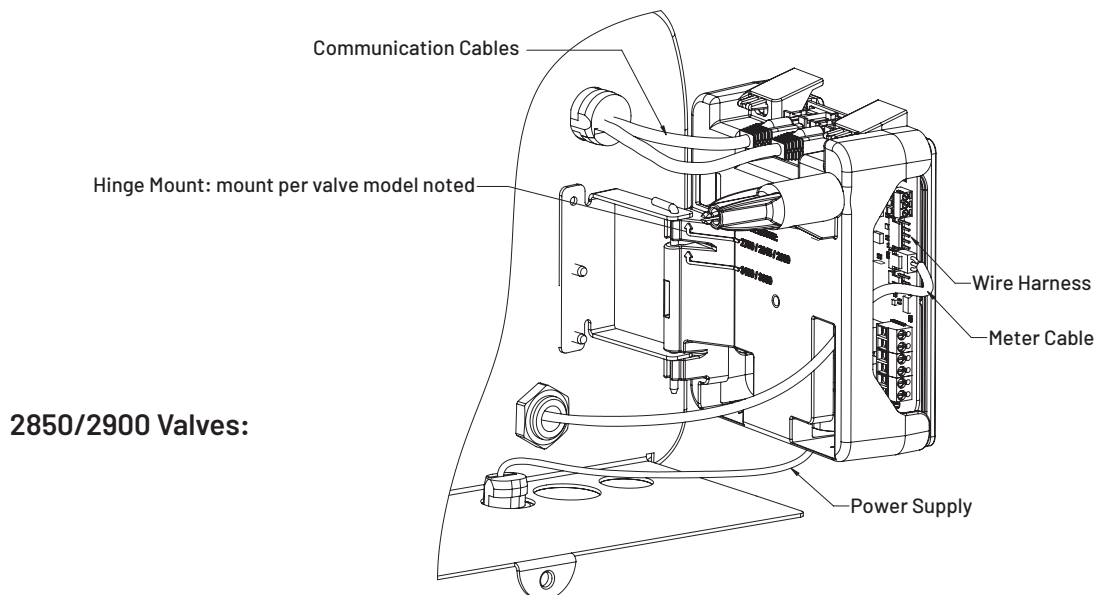
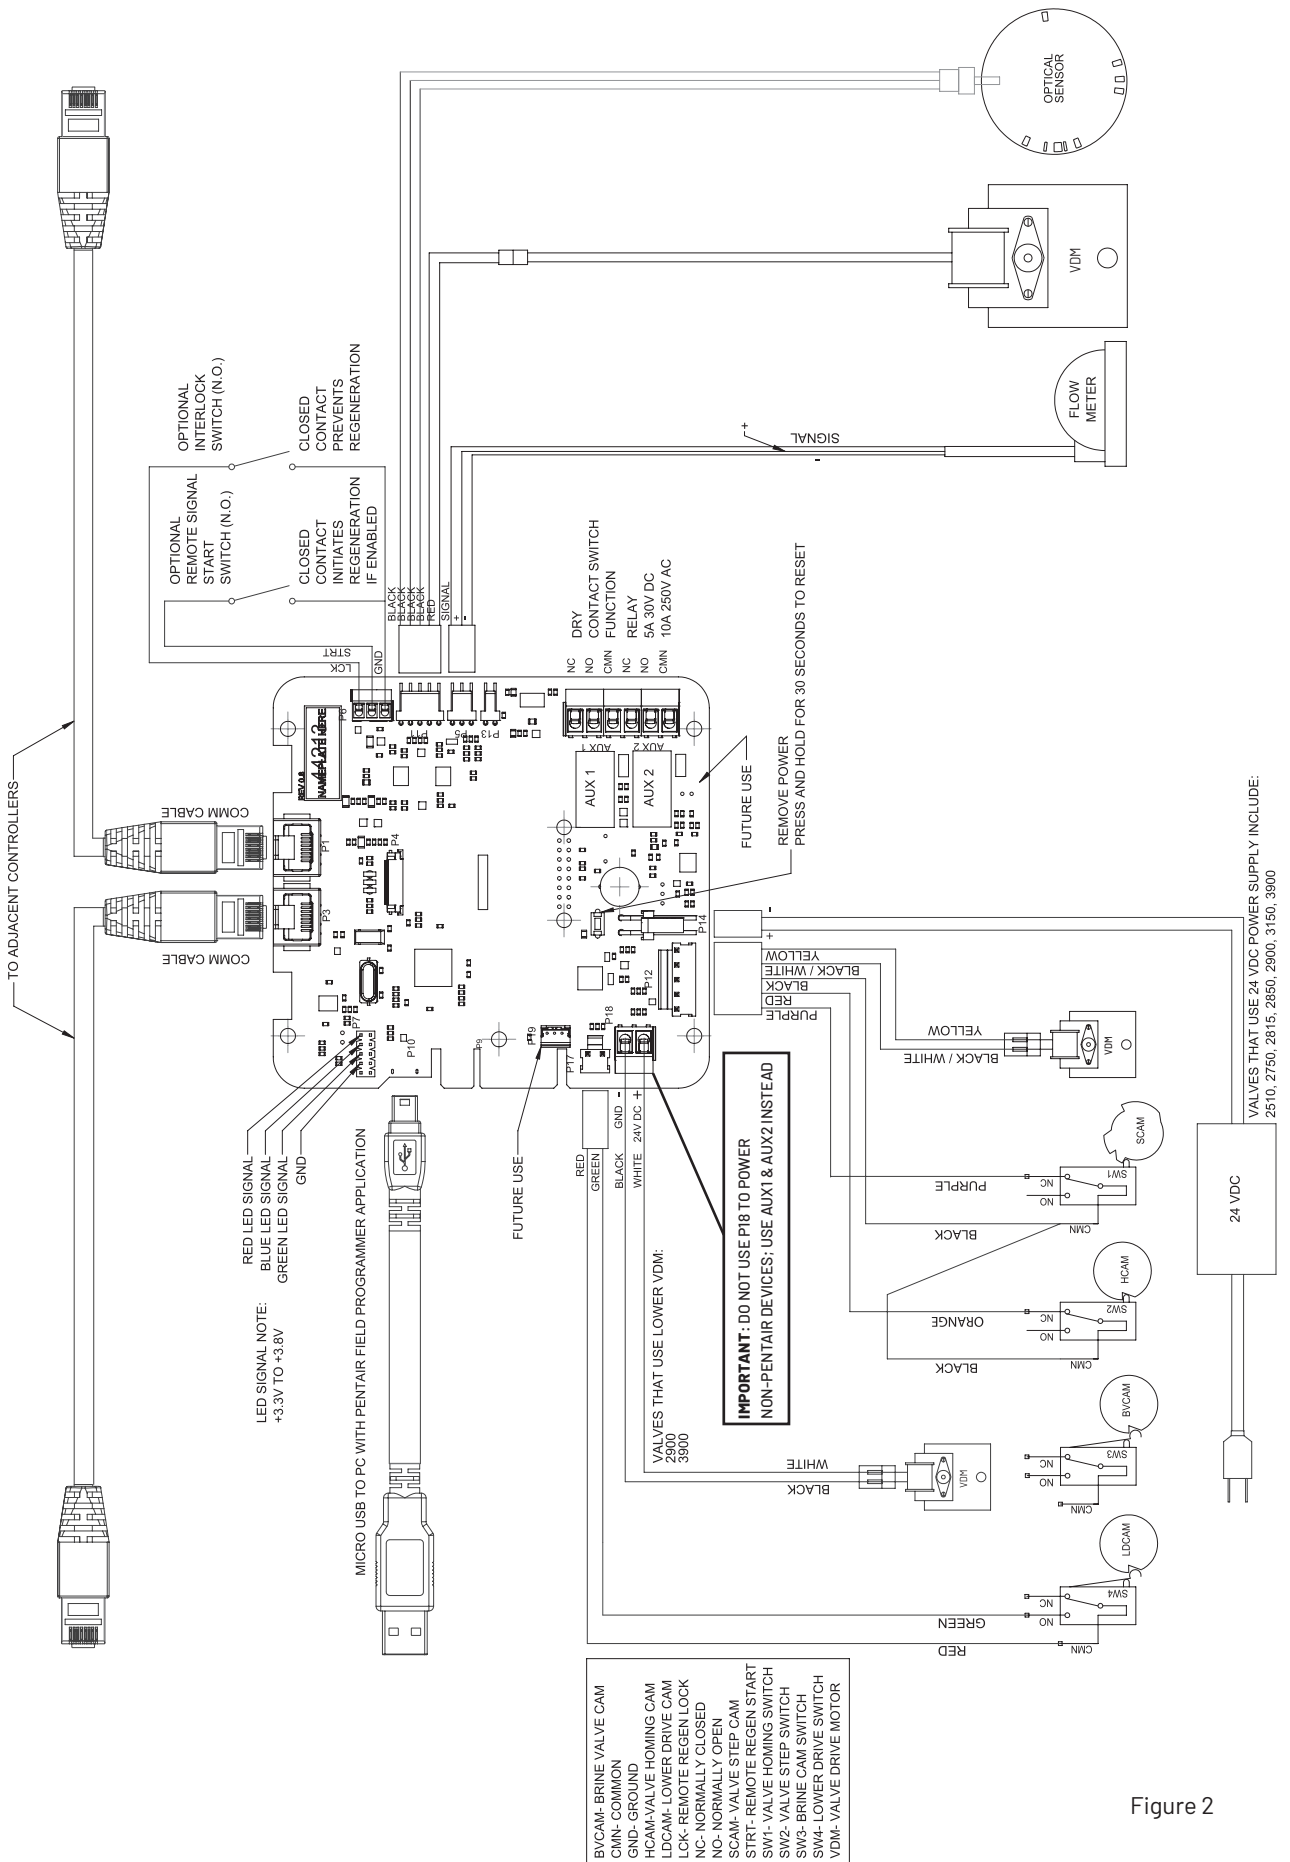

Figure 1
Figure 2
See Figure 1 and Figure 2 on pages 5 and 6.
3. See Figure 1 and Figure 2 on pages 5 and 6. for the following steps. Remove screw adjacent to the open rectangular area on the meter cover (dome).